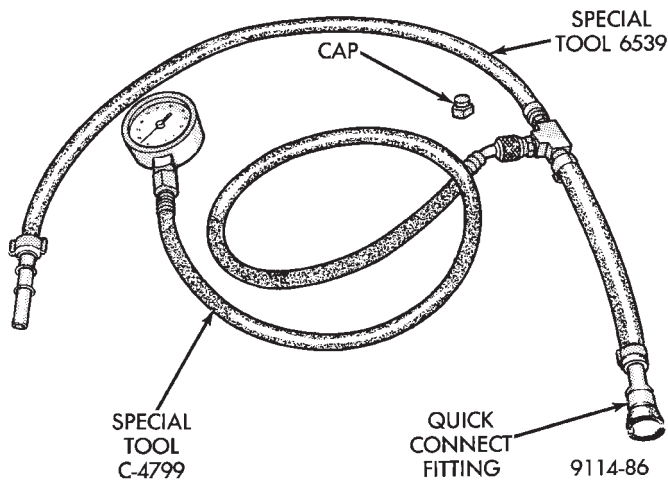

Fig. 8 Fuel Pressure Gauge and Adapter
- Connect Fuel Pressure Gauge C-4799 to Fuel Pressure Test Adapter 6539 (Fig. 8). Install the adapter between fuel supply hose and chassis fuel line assembly.